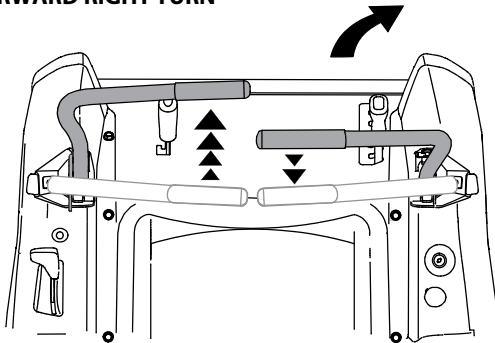

Figure 5-5
- To turn to the right, move the right drive control lever rearward of the left lever. See Figure 5-5.